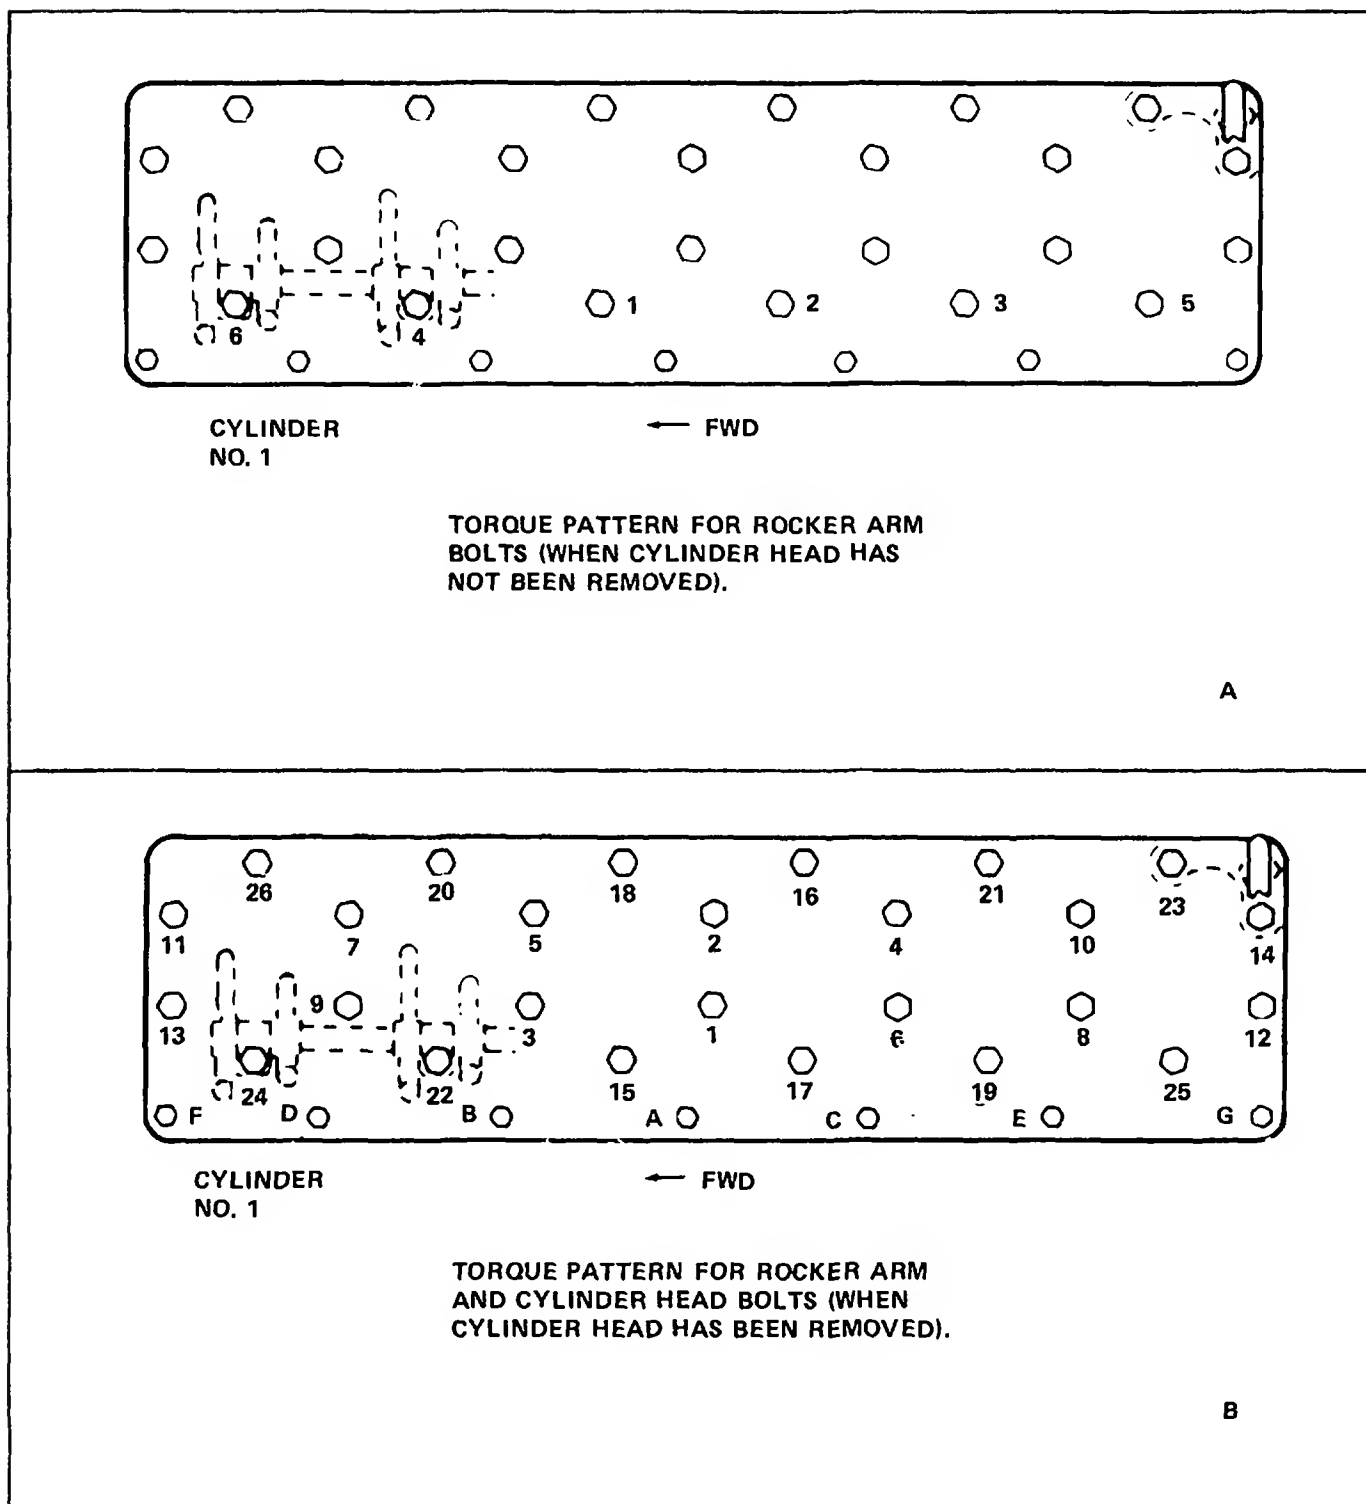

Figure 11-34. Rocker Arm and Cylinder Head Bolt Torque Patterns
(2) Install spring (28), washers (27), brackets (23 and 24), and rocker arm assemblies (11 and 16) onto shaft (30).
(3) Install rear support bracket (22) on rocker shaft (30). Make sure hole in bracket (22) is in alignment with hole in shaft (30).
(4) Install pin (21) into bracket using a hammer. Pin (21) must extend 0.378 inches (9.60 mm) above the bracket.
(5) Install seal ring (6) into bracket (22).
(6) Install rear (cylinder number six) exhaust rocker arm assembly.
(7) Install washers (10), springs (9), washers (8), and retaining ring (7) onto shaft (30).
k. Install pushrods (4).
l. Position valve mechanism assembly (3) on cylinder head assembly.
m. If the valve mechanism was removed from the cylinder head, but the cylinder head was not removed from the block, see figure 11-34 View A and torque the valve mechanism bolts (1, figure 11-31) as follows:
(1) Coat threads of all bolts with anti-seize compound, MIL-C-47167.
(2) Torque bolts in numbered sequence to 175 +/-5 foot-pounds (236 +/-6.8 Newton-meters) and check torque
(2) Position compressed air inlet elbow (5).
(3) Tighten all bolts in number sequence to a torque of 115 foot-pounds (155 Newton-meters) (refer to figure 11-34 and table 1-2).
(4) Again tighten all bolts in number sequence to a torque of 175 +/-5 foot-pounds (236 +/-6.8 Newton-meters).
(5) Verify all bolts in number sequence (hand torque only) to a torque of 175 +/-5 foot-pounds (236 +/-6.8 Newton-meters).
(6) Tighten all bolts in letter sequence to a torque of 22 foot-pounds (30 Newton-meters).
(7) Again tighten all bolts in letter sequence to a torque of 32 +/-5 foot-pounds (43 +/-7 Newton-meters).
(8) Verify all bolts in letter sequence to a torque of 32 +/-5 foot-pounds (43 +/-7 Newton-meters).
o. Secure the oil filter assembly (10) to the oil filter support assembly (38) using bolt (6), lockwasher (7), washer (8), and nut (9).
p. Tighten bolts (2) in face of water pump.
q. Install bolts (1) which secure the water pump to the cylinder head.